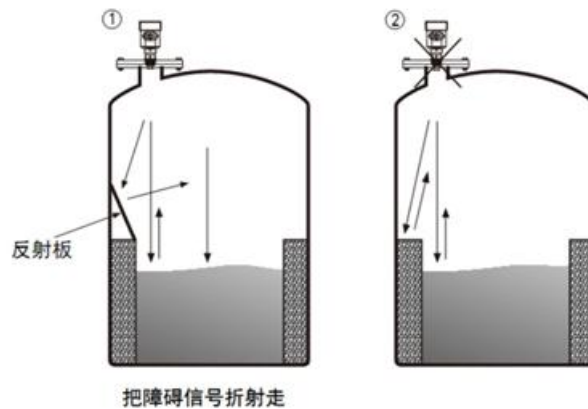

Figure 7
2.3 When there are obstacles in the tank that affect the measurement, a reflective plate needs to be installed to ensure normal measurement (as shown in Figure 7).